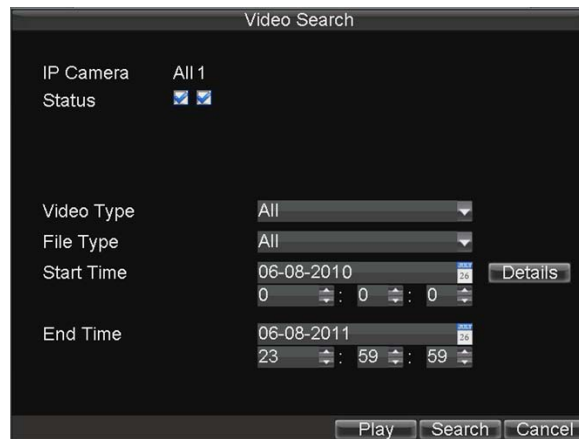

Figure1. Video Search Menu
1. Enter the Video Search menu (shown in Figure 1) by clicking Menu > Video Search.